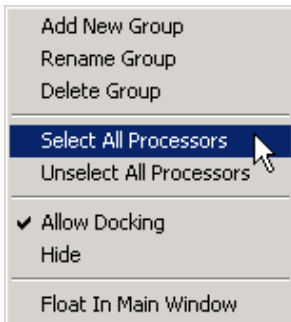

Figure 2-51. Moving All Processors into the Default Group
3. Choose **Select All Processors** from the popup menu, shown in Figure 2-51.